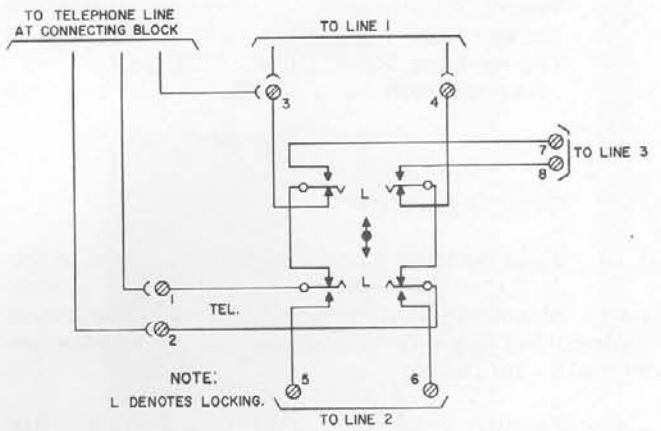

Figure 5. Ringer Cutoff.
4.02 Ringer cutoff is useful in locations requiring uninterrupted quiet. Make the following connections to the key terminal strip to provide ringer cutoff (Figure 5):